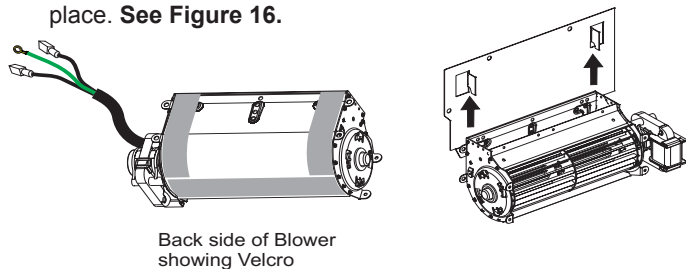

Figure 16
13. Install the blower onto the prebent brackets on the blower plate. Ensure the Velcro connects to secure the blower in place. **See Figure 16.**